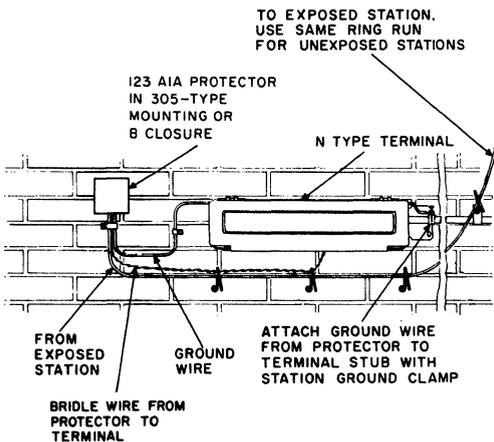

Fig. 95—N-Type Terminal, Wall Installation
12.05 Typical wall and pole installations, using protectors for cable protection, are shown in Fig. 95 through 98.